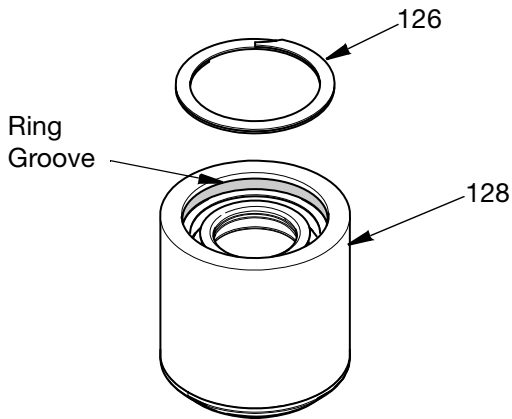

FIG. 19
6. Place the internal retaining ring (126) into the groove at the top of the poppet inlet check valve (128). See FIG. 19.